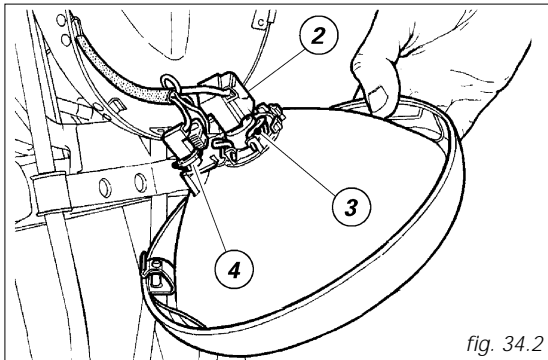

fig. 34.2
To gain access to headlamp bulbs, slacken the lower screw (1) holding the rim-reflector assembly to the body and disconnect the connector (2, fig. 34.2) from the headlamp. Release the clip (3, fig. 34.2) that secures the bulb and remove it from the socket.
**E** To change the parking light bulb, withdraw the bulb holder (4, fig. 34.2). The bulb is of the bayonet-type: press and rotate anti-clockwise to remove. Fit the spare bulb by pressing and turning clockwise until it clicks. Fit the bulb holder again and assemble the rim-reflector assembly.